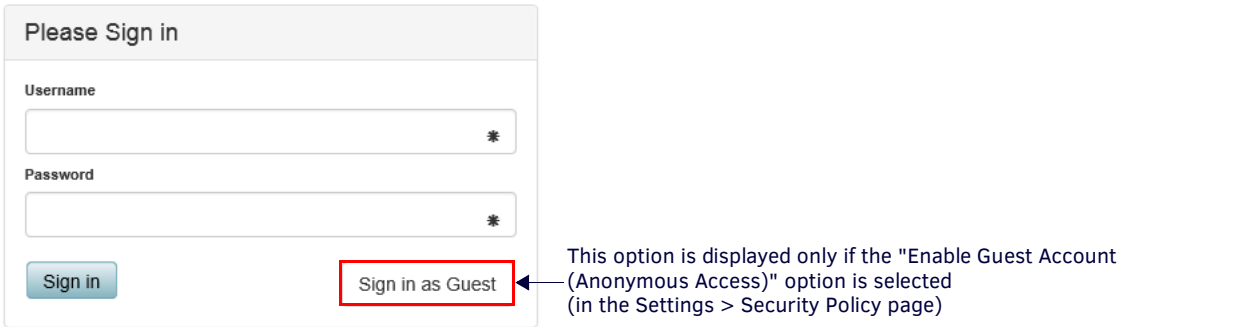

FIG. 6 User Sign-In Form
- If the *Enable Guest Account (Anonymous Access)* option is enabled (via the *Security Policy* page), the *Sign In As Guest* option is included in the Sign In window (FIG. 6):